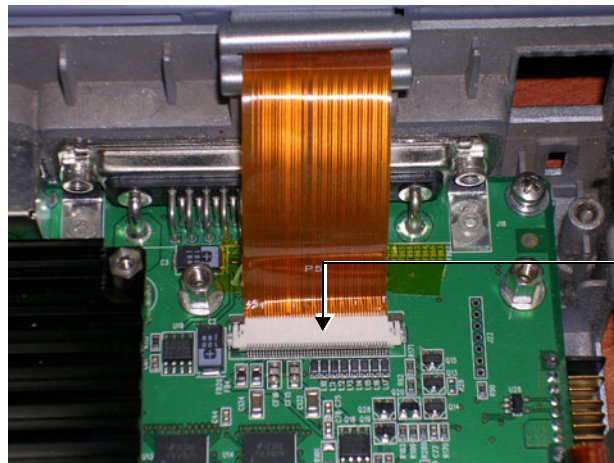

Figure 8-24 LCD Flex Cable Connected to BEP
- 2.) Disconnect the LCD Flex ribbon cable from the BEP, as shown in Figure 8-24.
- 9.) Reconnect the LCD flex cable to the BEP (refer to Figure 8-24 on page 8-21).